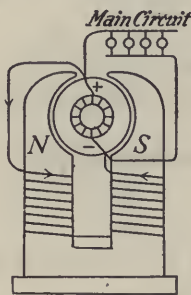

FIG. 286.—A shunt-wound dynamo.
B. The *shunt wound dynamo* (see Fig. 286) sends a part only of the current produced through the field coils. The latter are of many turns of fine wire so as to use as little current as possible. The greater part of the current goes to the main circuit. If the number of lamps or motors